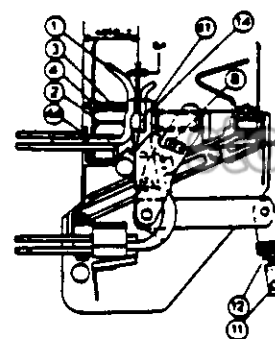

Fig. 11
2. Pole Contacts and Contact Arm (Figs. 11 & 11A)
1. 800 Ampere Frame (Fig. 11)